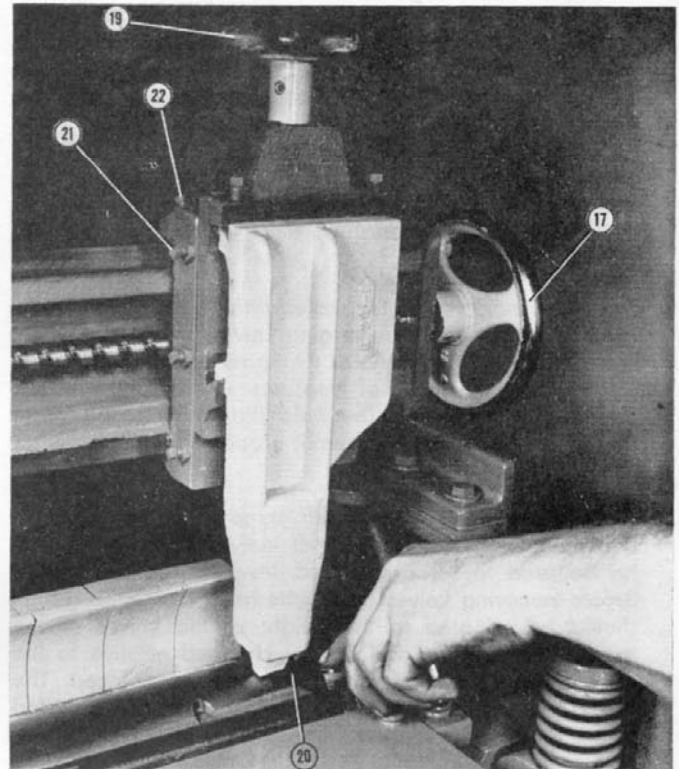

Figure 5
8. Operate jointer head back and check with thickness gauge (20) fig. 5, or piece of paper to see if jointer bar is level with cutterhead.